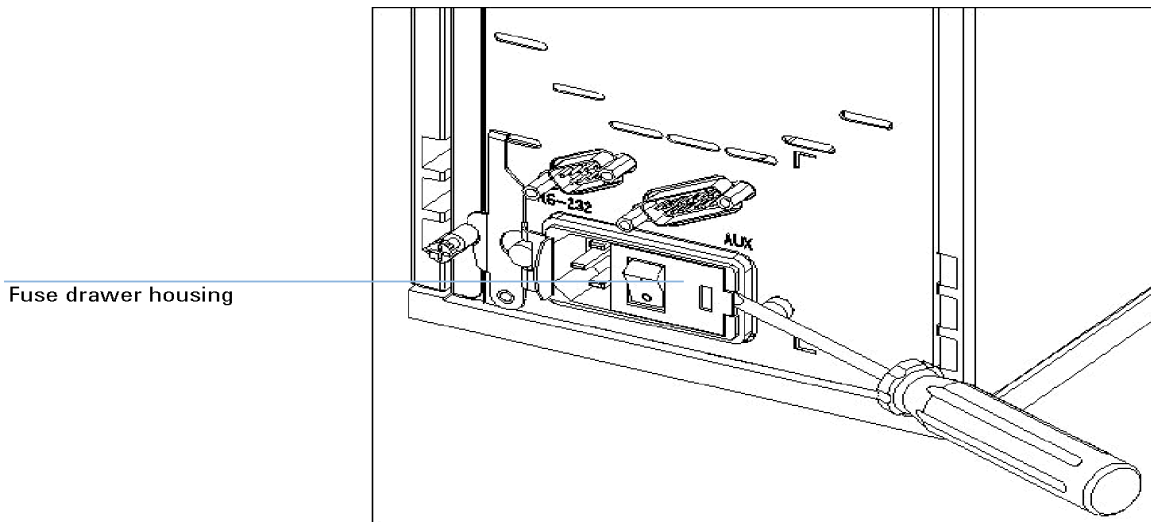

Figure 14 Remove power inlet housing
- 3 To access the fuse drawer, gently lift the outer plastic housing of the power inlet socket using a screw driver, see Figure 14 on page 187.